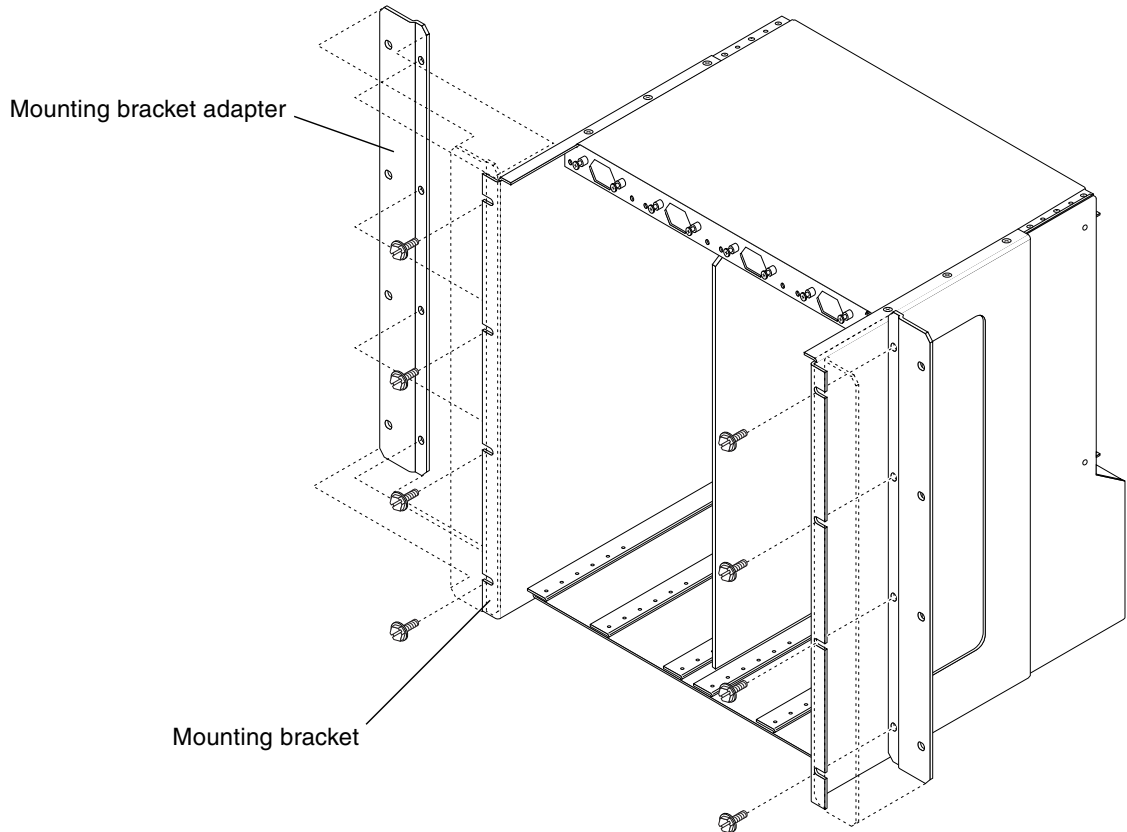

FIGURE 3-2 Installing the Mounting Bracket Adapters
2. Place one of the mounting bracket adapters behind the right chassis mounting bracket, and align the holes in the adapter with the mounting bracket (FIGURE 3-2).